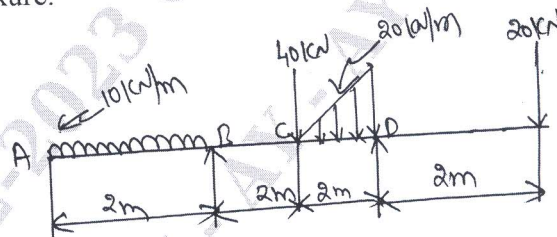

Fig Q6(b)
b. Draw the shear force and Bending moment diagram for the beam given in Fig Q6(b). Locate the point of Contra-flexure.